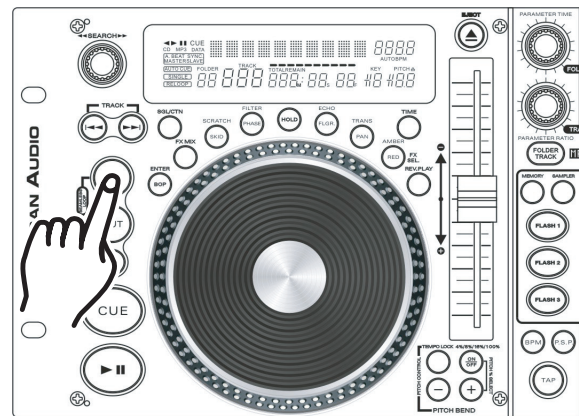

Figure 18
EXITING A LOOP - To exit a SEAMLESS LOOP, press the **OUT BUTTON (2)**. The **IN BUTTON (33)** and **OUT BUTTON (2)** LEDs will remain on, but will stop flashing. Music playback will resume normal play (Figure 18). The **IN BUTTON (33)** and **OUT BUTTON (2)** LEDs will remain on to remind you that a loop is stored in memory.
- 1) Press the **OUT BUTTON (2)** to return to normal play from the loops cue point. (Figure 18). This will disengage the SEAMLESS LOOP mode and allows you to edit the loops ending point.